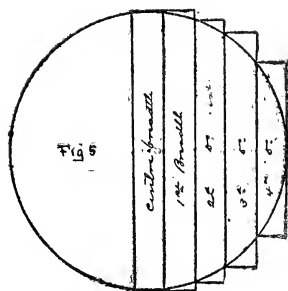

FIGURE 5
*Ex. 1.* What is the length of the 2d, 3d, and 4th breadth from the center one, in a circular room (Fig. 5), radius=10 ft.?